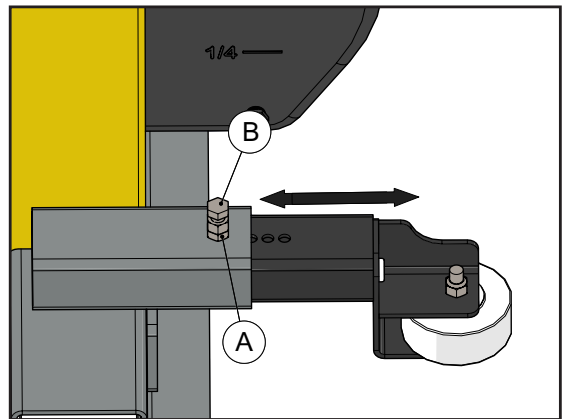

Figure 2 - Adjust Roller Sidebars
- a. Loosen the locknut (A) and bolt (B) on top of side bar.
- b. Adjust roller sidebars as shown in Figure 2. Align bolt with sidebar hole.